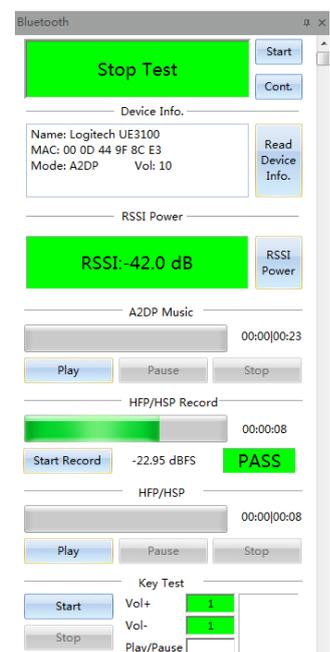
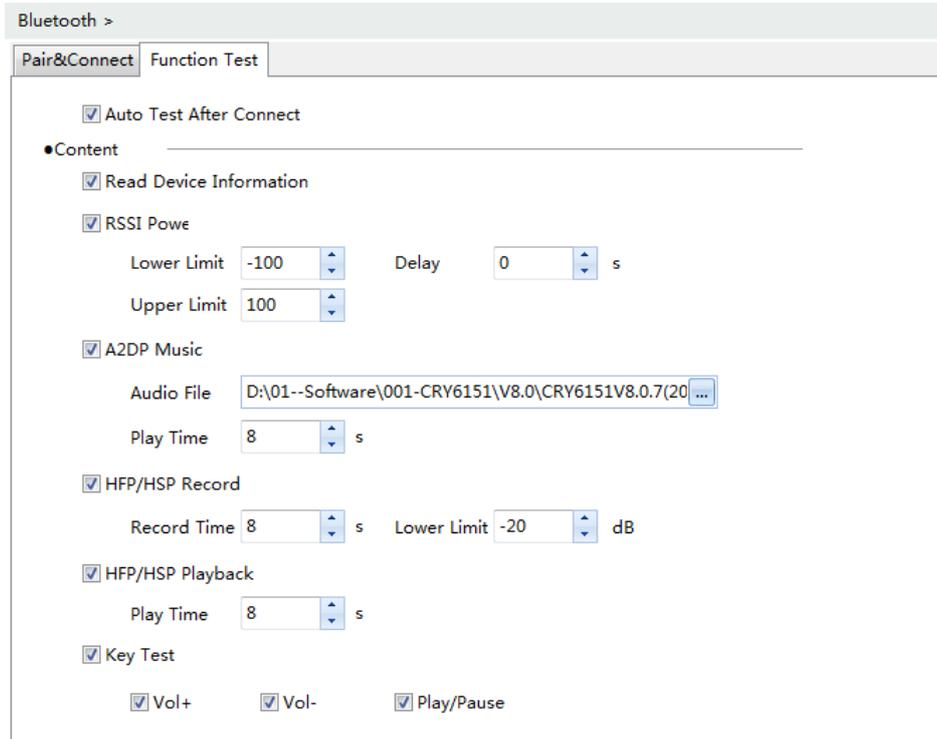

Figure 4.30 Bluetooth Connection
Figure 4.36 Bluetooth Functional Test Setup
“Bluetooth” in the test steps is a setup interface. The Bluetooth test interface is in the main interface window. If the original window is not opened, when proceeding to this step, the window will be displayed, as shown in Figure 4.30.
Section 4.8.1 introduces “Pair&Connection” in Bluetooth, this section will continue with another module of Bluetooth - “Functional Test”, as shown in Figure 4.36.
- (1) Auto Test After Connection: when the bluetooth device is connected, a functional test will be carried out automatically. After the functional test, an electroacoustic test will be conducted. If all functions are ticked according to Figure 4.36, the display effect of Bluetooth and test content is shown in Figure 4.30.
- (2) Read Device Information: read information of the tested bluetooth device. The device information includes bluetooth device name, MAC address, model and volume.
- (3) RSSI power: read the RSSI power value of tested bluetooth device. The pass Mix/upper limit is set for verdict. The delay time is the waiting time after RSSI power is read, to prepare time for headphone listening.
- (4) A2DP Music: in A2DP mode, the bluetooth device plays a selected length of music. The file playing path and playing time can be set.
- (5) HFP/HSP Record: in HFP/HSP mode, the bluetooth mic collects a selected length of music. The recording time and lower limit of loudness can be set.
- (6) HFP/HSP Playback: in HFP/HSP mode, the sound recorded in the last step is played back. The playback time can be set.
- (7) Key Test: in HFP mode, the “volume+”, “volume-” and “play/pause” buttons of the device can be detected.